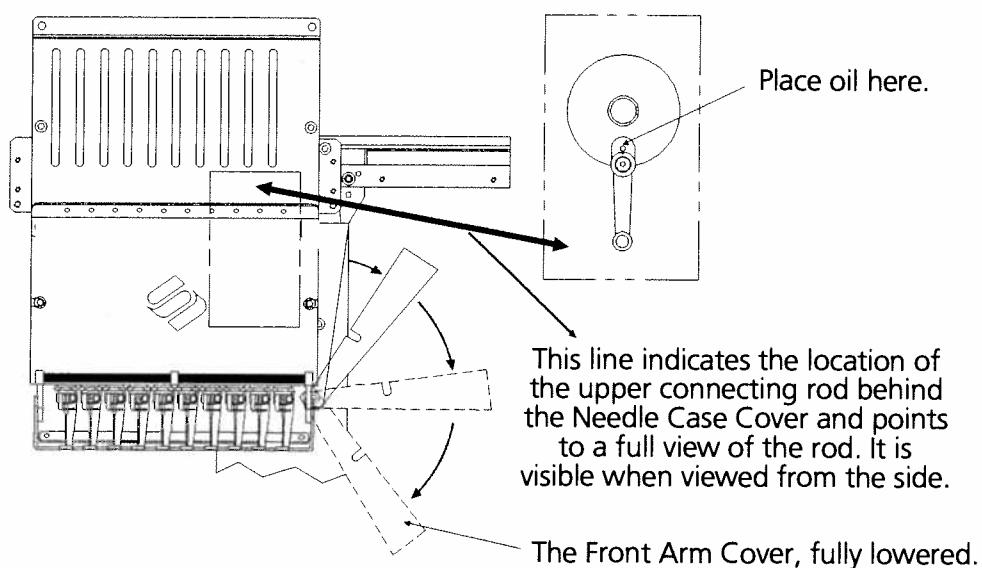

Figure 8-6
The upper connecting rod is accessed near the lower right side of the needle case, follow these steps and refer to Figure 8-6.
8. Press the [↓] key. The LCD displays: NEEDLE DEPTH. Now you can see the connecting rod as shown in Figure 8-6.